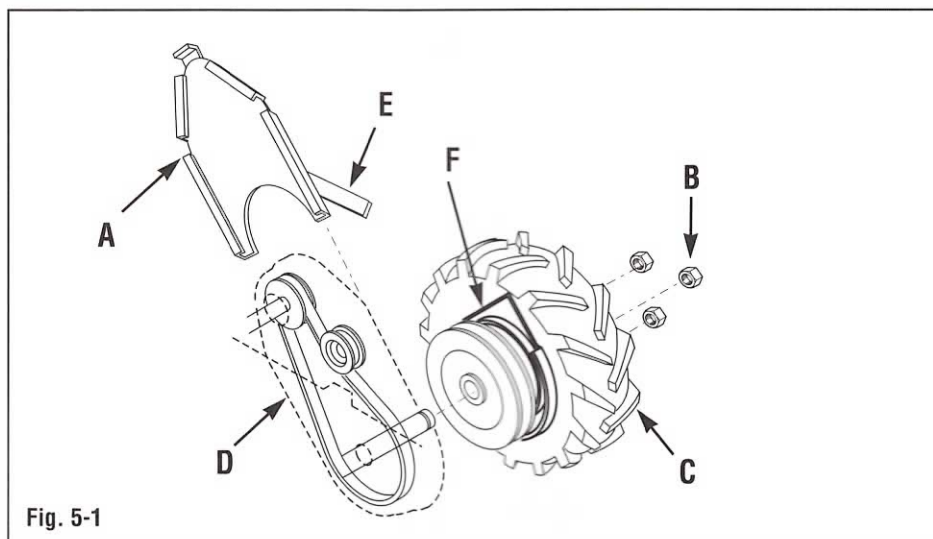

Fig. 5-1
2. Slide belt cover (A, Fig 5-1) up and off unit.
3. Remove three wheel mounting nuts (B) and slide wheel/tire assembly (C) and belt seal (F) off axle. (A sheet metal spacer may also come off with the wheel/tire assembly. If so, replace the spacer on the axle.) The belt drive pulley shown in Fig. 5-1 will remain on the axle.